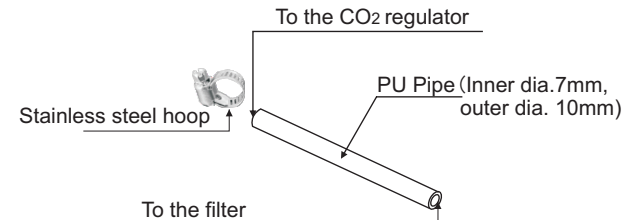

Figure 2
- Adjust the secondary flow control valve to point the pointer to 0.1 – 0.2MPa (as shown in figure 2). It may cause the pipe connect the incubator and the inlet port to fall off and the leak of the CO₂ gas if the secondary pressure is too high. High CO₂ concentration will do harm to your health and may cause suffocating and death. Maintenance is required if the inner pipe falls off.